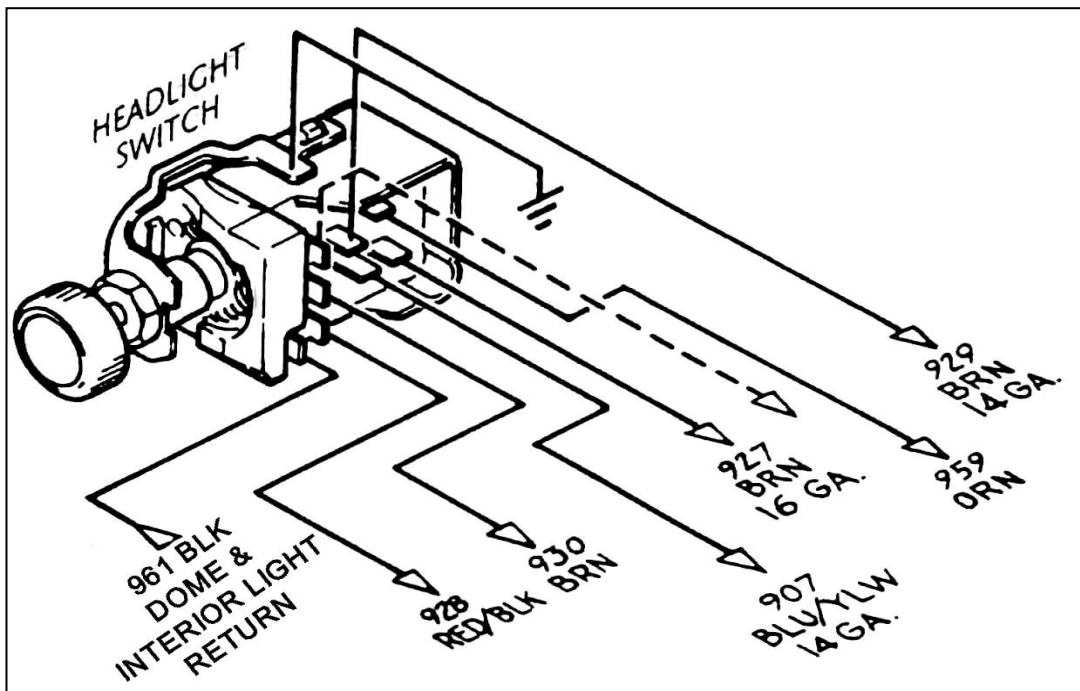

Figure 15-1 HEADLIGHT SECTION B Wiring (Painless Part #80152)
15.0 HEADLIGHT SECTION B (Headlight Switch). See Figure 15-1.
*Note: On late-style GM headlight switches, the park lights terminal to which wire #927 (brn) is connected (shown in **Figure 15-1**) has been omitted. In this case, wire #927 must be connected as indicated by the dashed line in **Figure 15-1**.*